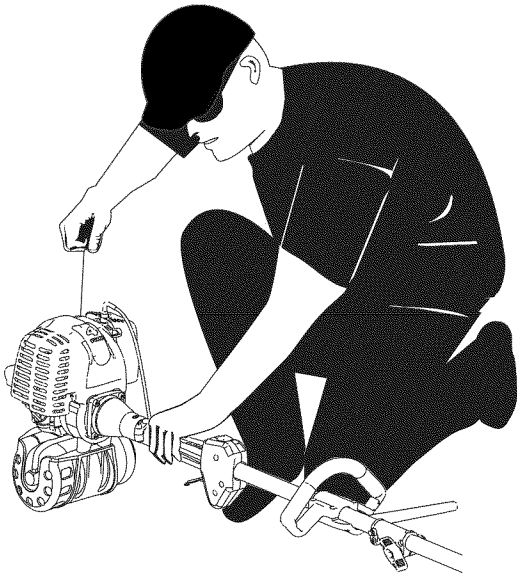

Fig. 13
3. Place trimmer firmly on the ground or a very sturdy work surface. Make sure cutting head is clear of all objects. Make sure all bystanders are a minimum of 50 feet (15m) away. Do not attempt to start near pilot lights or any open flame. Do not smoke. Grasp the starter rope handle with one hand and the handle pole with the other hand ( Fig.13).
Avoid accidental starting. Make sure you are in the starting position when pulling the starter rope (Fig. 13). To avoid serious injury, the operator and unit must be in a stable position while starting. Make sure that any add-on item is installed correctly and secure before starting the unit.